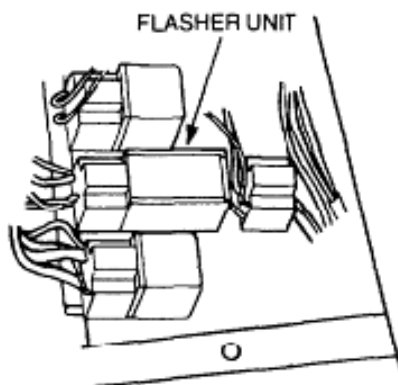

Figure 174 Flasher Unit Removal
- d. Remove the flasher unit from the socket (Figure 174).